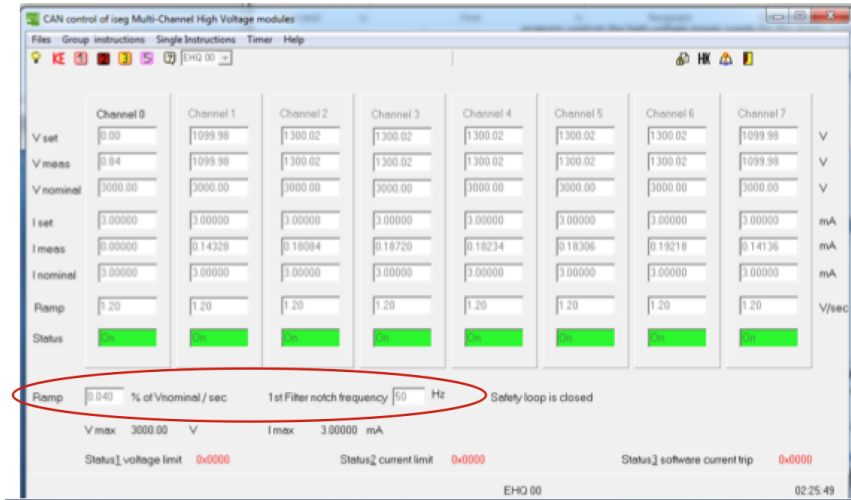

Figure 26. **EHS/EHQ 00** iSEG Multi-Channel High-Voltage Module Screen.
10. Select **ESQ00/EHS00** (Figure 26).